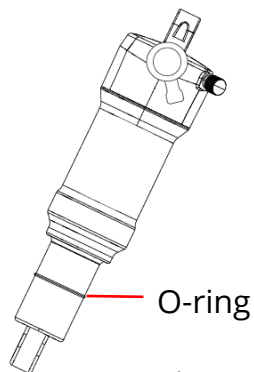

Fig. 2
3. Position your bicycle next to a wall so that you can sit on the bike with both feet on the pedals while steadying yourself with one arm. Gently sit on the saddle without bouncing. Dismount gently without bouncing and take note of how far the O-ring has moved down the shaft. Measure distance O-ring has moved (Fig. 2). This is your current sag